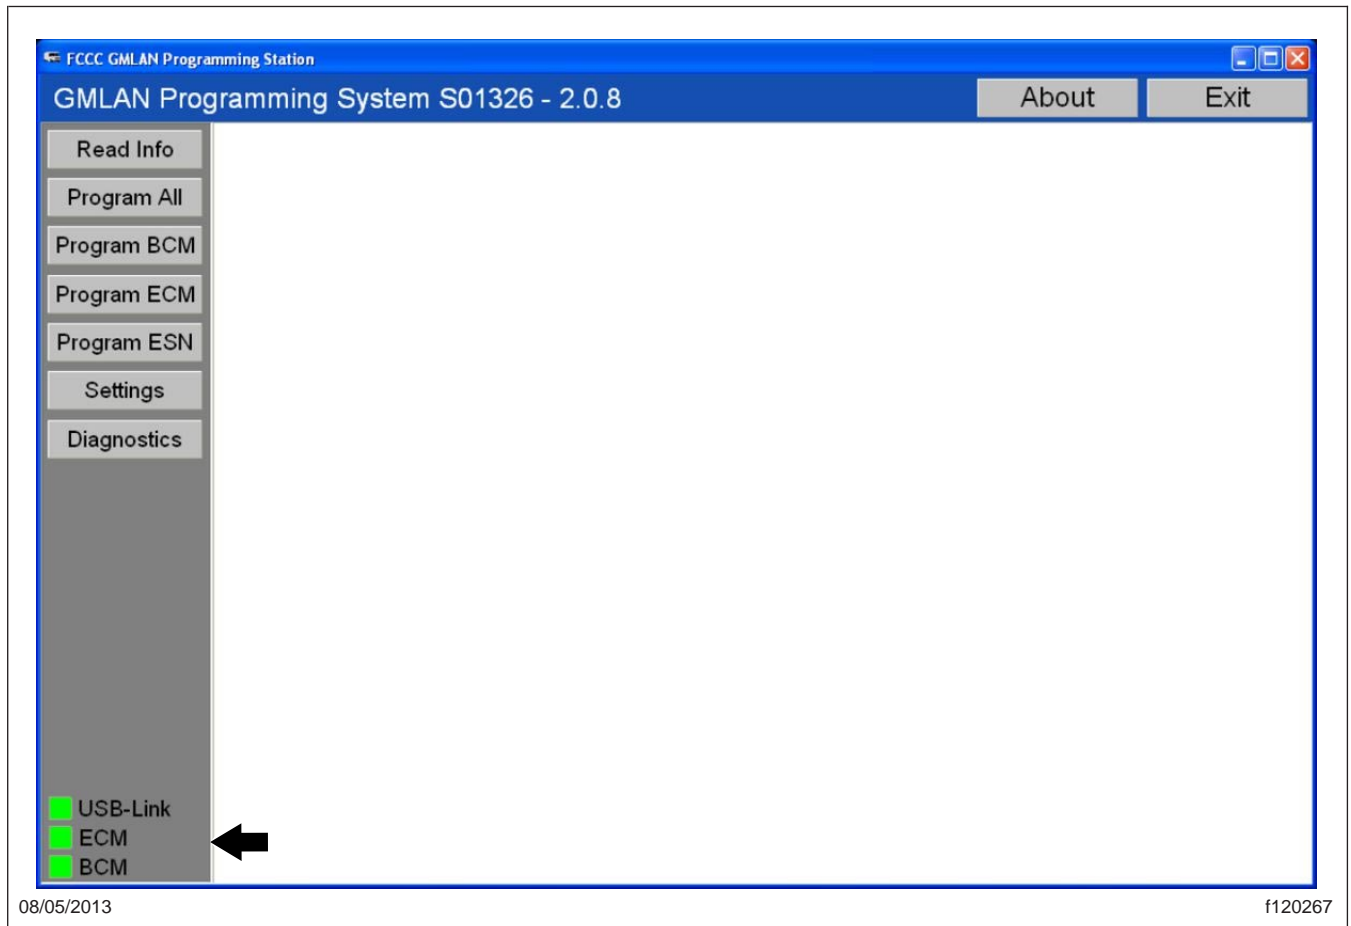

Fig. 2, GMLAN Initial Program Screen
Make certain the three lights at the bottom left of the screen are green. See Fig. 2. If the three lights are not green, verify that all cable connections are secure and the ignition is ON.
2. Make certain the three lights at the bottom left of the screen are green. See Fig. 2.
3. Make certain the three lights at the bottom left of the screen are green. See Fig. 2.